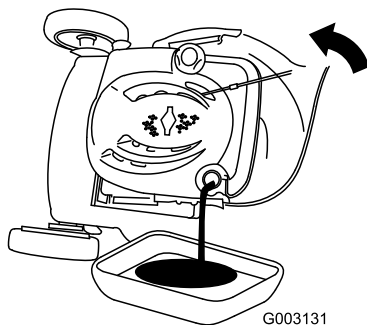

Figure 35
7. Tip the machine onto its side, with the oil-fill tube down, to drain the used oil out through the oil-fill tube into the oil-drain pan (Figure 35).